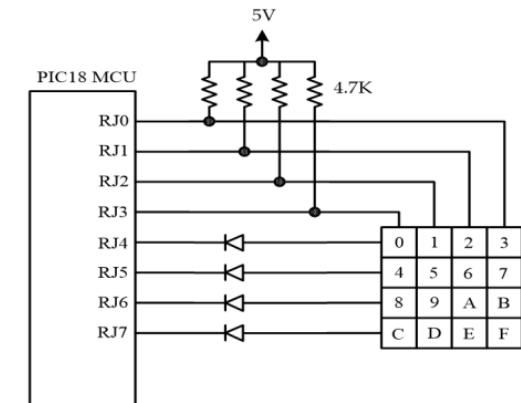

Figure 7.26b Sixteen-key keypad connected to PIC18 (used in all SSE demo boards)
- The diodes in Figure 7.26b provide protection of accidental simultaneous press of multiple keys.